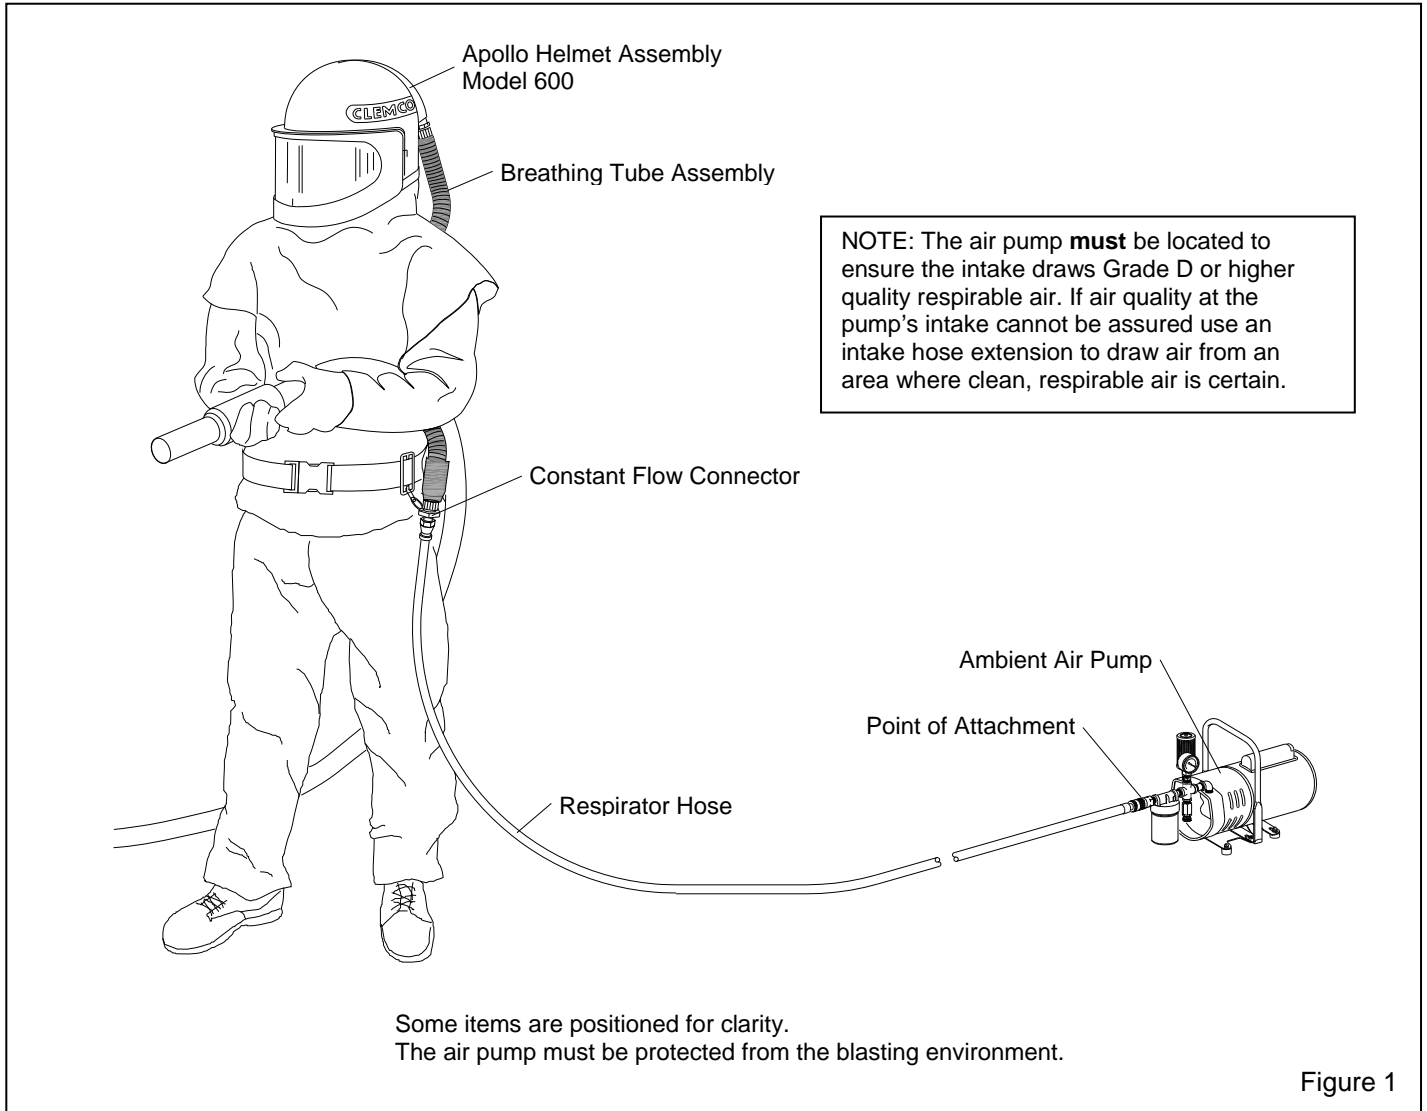

Figure 1
1.1.2 Read this entire manual and all accessory manuals before setting-up and using the respirator. Manuals for Clemco low pressure, ambient air pumps that may be used with Apollo LP Respirators are available on our web site, www.clemcoindustries.com. Refer to Figure 1 for a typical set-up.